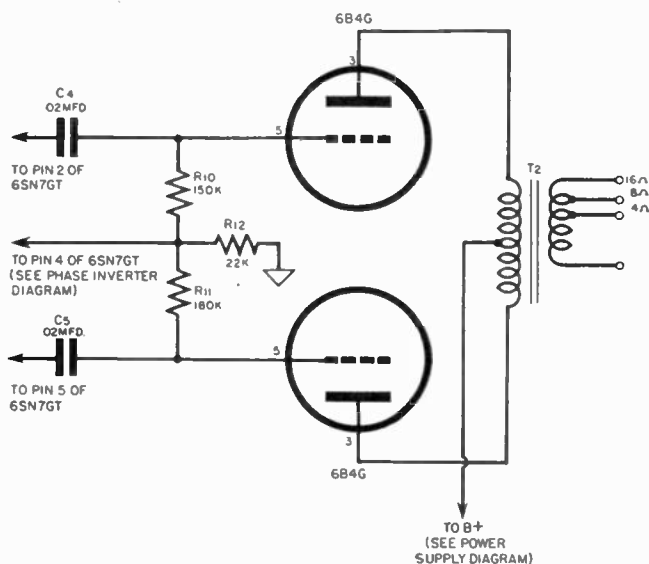

Fig. 5-6. The output circuit.
c) *Output Circuit.* See Figure 5-6.